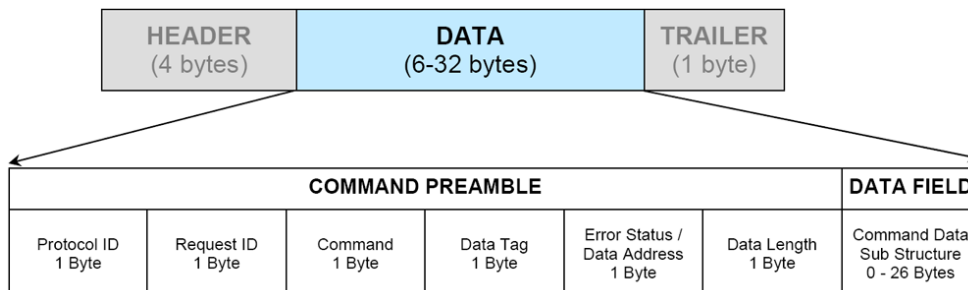

Figure 5: Data Sub-Packet
The data sub-packet is comprised of 6 to 32 bytes of information. It is further divided into seven (7) fields as shown in Figure 5. The first six (6) fields comprise the command preamble while the last field is the actual data.